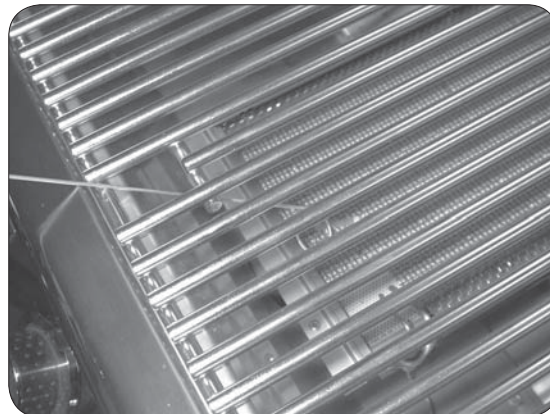

Fig. 21-2 - Manual lighting
2. Insert either a burning long-barrel butane lighter, a burning long-stem match, or a burning match held by a wire extension holder through the cooking grid opening to the top of the burner (Fig. 21-2).
4. If the burner does not light within five (5) seconds of turning the control knob, **immediately depress the knob and turn the valve to OFF**. **WAIT FIVE (5) MINUTES** before repeating steps 2 through 4 of the MANUAL LIGHTING instructions.